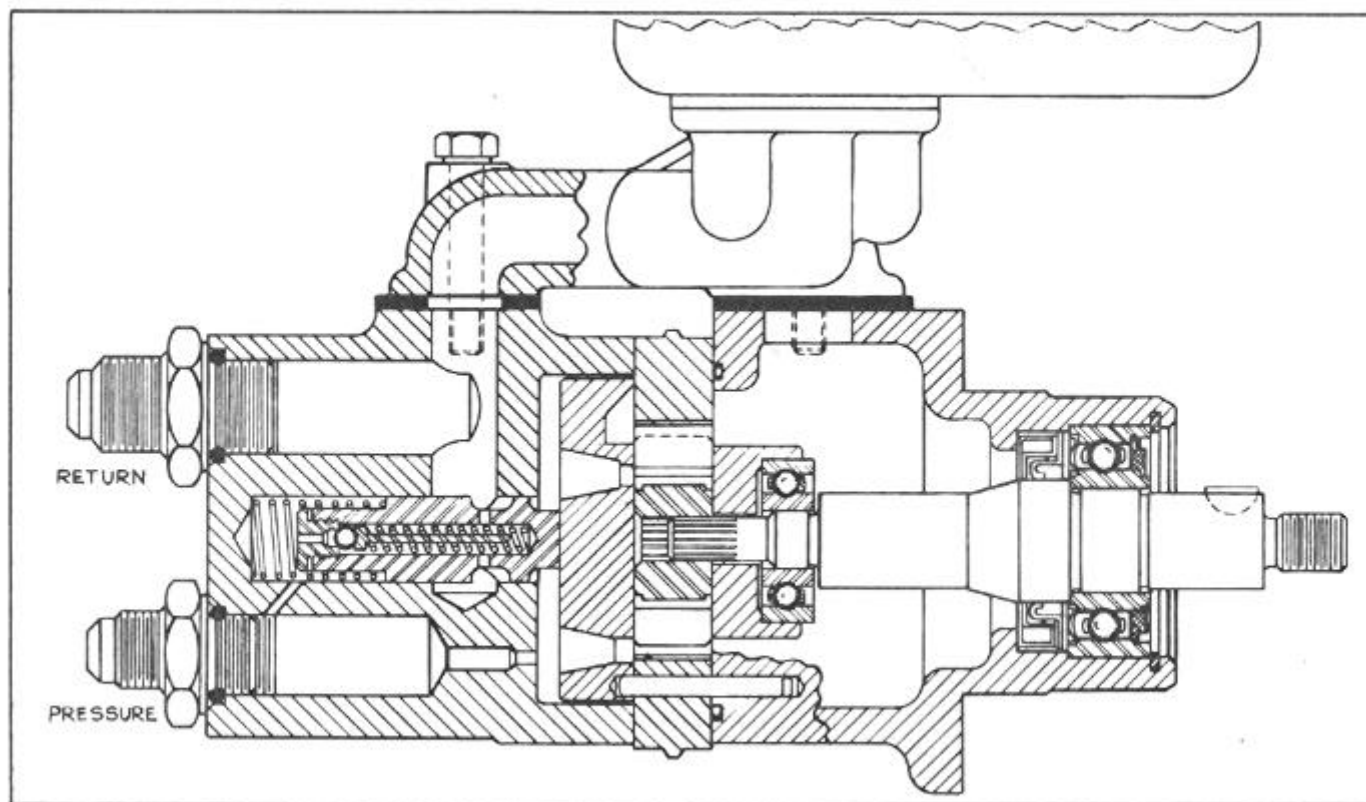

FIGURE 6
The hydraulic pump, Figure 6, is of the constant displacement type and builds up only the pressure required to overcome the resistance to the turning of the front wheels. This oil pressure, which pushes against the piston, is also used in building up a pre-load
12. Install the pressure plate (22) on the dowel pins extending through rotor ring (21). (Small arrow on pressure plate should be at the top).
13. Install the "O" ring (30) in pump cover (33).
14. Install the control valve (31) and control valve spring (32) in front face of pump cover (33), Figures 6 and 8.
15. Install pump cover assembly over the pressure plate (22) and install the pump cover to pump body attaching screws (24) (9/16" cap screws). Tighten all screws evenly finger tight and then torque to 25-30 foot pounds.
16. Install new pump to manifold gaskets and spacers (17) and (13).
17. Install manifold to pump attaching screws (11) (7/16" cap screws) tighten to 12-15 foot pounds.
18. Install oil reservoir to manifold gasket (10).
19. Install oil reservoir (9) on pump manifold and attach two screw and lockwashers (8) (7/16" cap screws).